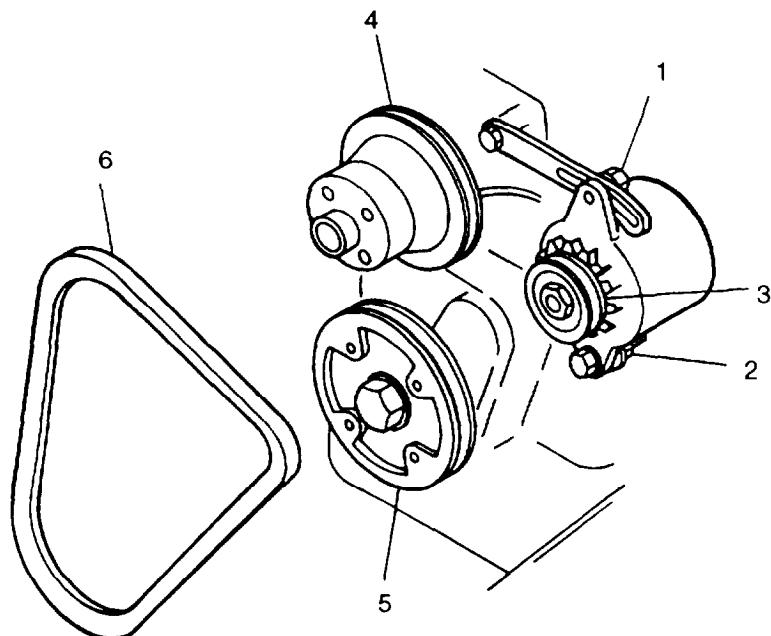

FIGURE 2-25. Fan Belt
- e. Inspect fan belt (6, FIGURE 2-25) for frays, cracks, oil soaking, and other damage
- g. Tighten alternator mounting bolt (1) and nut (2).
- e. Loosen alternator mounting bolt (1, FIGURE 2-25) and nut (2).
- f. Pivot alternator to relieve tension on fan belt (6). and remove belt (6) from alternator pulley (3), fan pulley (4), and crankshaft pulley (5).
- a. Slip fan belt (6, FIGURE 2-25) over fan (36. FIGURE 2-23).
- b. Install belt (6, FIGURE 2-25) onto alternator pulley (3), fan pulley (4), and crankshaft pulley (5)
- c. Adjust tension on fan belt (6). paragraph 2.83.2.